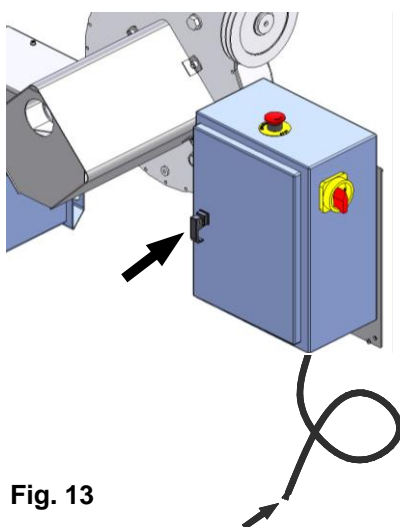

Fig. 13
- If the machine behaves abnormally, immediately switch off the main switch (Fig. 13) and check the section "Malfunctions causes and possible remedies" in the instructions manual.